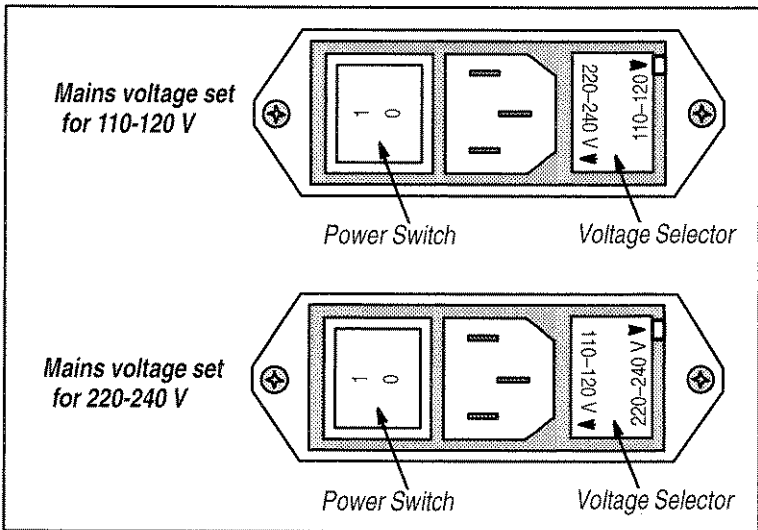

Figure 1-1: Rear-panel Input Connector
Check to see if the TDM5 mains voltage setting matches your ac power source voltage. (In Figure 1-1, the arrow that points to the small rectangle indicates the mains voltage setting.) If it does **not** match, change the mains voltage setting (instructions follow).
3. Referring to Figure 1-1, verify that the new voltage setting matches your ac supply voltage.